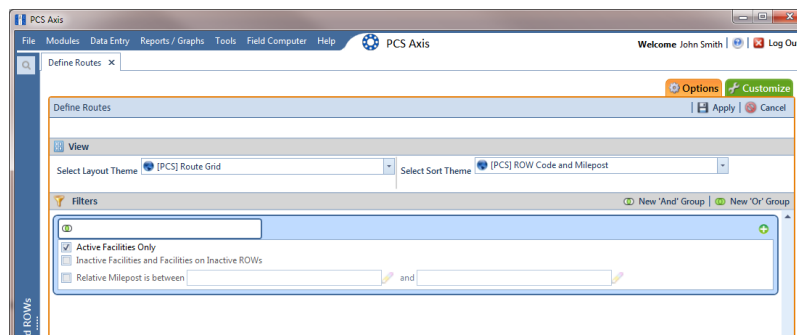

Figure 8-3. Filters
- a Click the check box of one or more options in *Filters* and then click  **Apply**. For example, click **Currently Active Facilities Only** to only include active facilities (Figure 8-3).